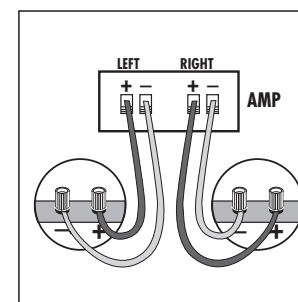

FIGURE 12
- Once you have cut the hole, fish your previously positioned wiring out of the hole and connect the speaker. Follow the hookup directions included with your receiver. Strip ½ inch (12 mm) of insulation from each of the two conductors of the wire to expose the bare metal and twist each of the conductors into a single unfrayed strand (so you have two unfrayed strands). Note that one of the terminals on the rear of each speaker is red (+) and the other is black (-). Make certain that you connect the wire from the red terminal (+) of your amplifier or receiver to the red terminal (+) on your speaker and the wire from the black terminal (-) of your amplifier or receiver to the black terminal (-) on your speaker. Most wire has some indicator (such as color-coding, ribbing or writing) on one of the two conductors to help you maintain consistency [figure 12].